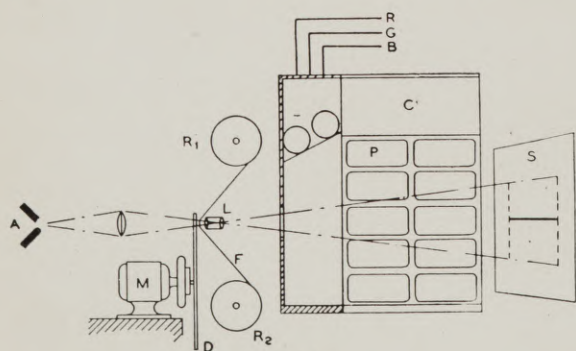
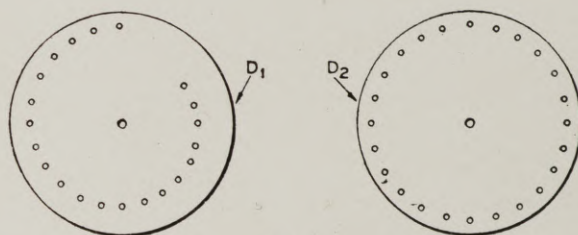
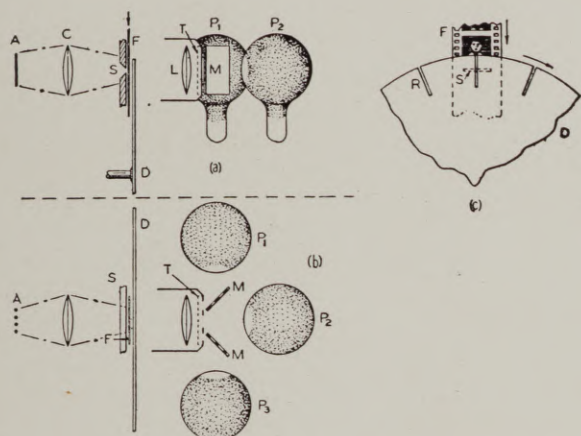
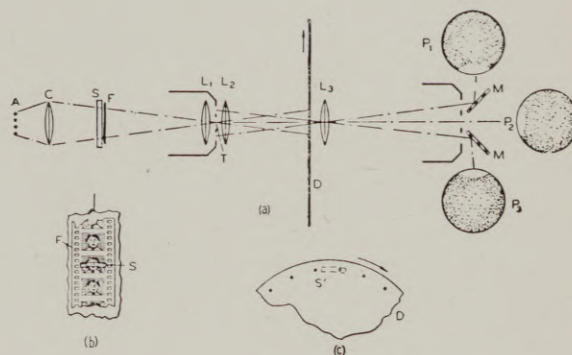

Fig. 1
Fig. 2
Fig. 3
Fig. 4
As an introduction to the method of telecinematography in color using ridged film, it is profitable to outline how the problem could be solved with film in which the colors are incorporated by dyes (e. g., Technicolor), and the three-color transmitting and receiving system recently developed in the Bell Laboratories.1 This may be done most easily by considering Fig. 1, where the three-color transmitting apparatus is shown in section, with the addition of film handling means. The
If, with the apparatus as just described, the film stands still, with a picture frame exactly filling the field aperture in front of the disk, and the disk rotates at its normal speed for television, the screen S shows a projected image of the film, colored if the film is colored, and capable of being picked up by the photoelectric cells and transmitted, to be received like the image of a colored object by the single disk, three-lamp receiving apparatus, as ordinarily used for this purpose. When the film is moved in order to give a motion picture, there are two alternative forms of scanning disk available, depending on whether the motion of the film is intermittent, as in most cameras and projectors, or continuous. In the first case, a scanning disk must be used with a blank sector corresponding to the period occupied by the shift of the film between frames, as shown in  $D_1$ , Fig. 2, and a similar disk must be used at the
receiving end also. The use of intermittent exposures is, however, not only inefficient, because of the waste of line-time during the blank period, but is quite unnecessary when the image is analyzed by successive passages of a scanning aperture across the field. Instead of a disk provided with a spiral of holes it is simpler and better to use a disk with the scanning holes arranged in a circle, as shown at  $D_2$ , Fig. 2, and to give the film a uniform and continuous motion along the vertical diameter of the disk. When this is done the screen S shows merely a horizontal strip of light (indicated in Fig. 1 by the solid line) but the usual spirally-perforated disk at the receiving end spreads this out into a complete picture.
The method of using Kodacolor film may be most comprehensively described by saying that the film is to be projected as though for display upon a screen, but that the three beams of light issuing from the projection lens are directed each into a separate photoelectric cell for television transmission. With the details of the apparatus shown in Fig. 1 in mind, the Kodacolor film arrangement is readily grasped from Fig. 3, where the upper view (a) shows the elevation, the middle view (b) the plan, and (c) shows a detail of the scanning disk and film. Starting with the light source A, the light is condensed by the condenser system C on the film F which moves continuously past the slot S and directly behind the disk D. The disk is shown as provided with radial slots R, these together with the fixed slot S forming the scanning holes. After passing through the film and disk the light is projected as if to a screen by the lens L, in front of which is placed, in the regular projector, the set of red, green, and blue filters T. For our purpose both the screen and the filters are dispensed with. After passing through the lens, the light is diverted into three photoelectric cells,  $P_1$ ,  $P_2$ , and  $P_3$ , by the mirrors M. These cells are all similar, and need not be color-sensitive. The filters are omitted as obviously unnecessary—color is not needed until the signals are received and recombined at the receiving disk where the same apparatus is used as for the reception of signals from original colored projects.
The arrangement of apparatus shown in Fig. 3 calls for the slot, film, and disk being practically in contact. This condition, which must be met if color fringes are to be avoided, is likely to offer some difficulty, since both are moving at high speed. An alternative arrangement, by which the disk and film are separated, is shown in Fig. 4. Here the symbols are as in Fig. 3, and the apparatus is the same from the lamp A to the film F. The disk is, however, removed to a new position beyond the projection lens  $L_1$ , which is supplemented by a short-focus lens  $L_2$  so that an image of the film F, where it lies over slot S, is projected onto the disk. A third lens  $L_3$ , close to the disk, images the three apertures T onto mirrors M and photoelectric cells P as before. By this means the film image may be placed accurately in the plane of the disk and color fringes
- 3 The disk and film could be similarly separated in the form of apparatus shown in Fig. 1 although the necessity is not so apparent.